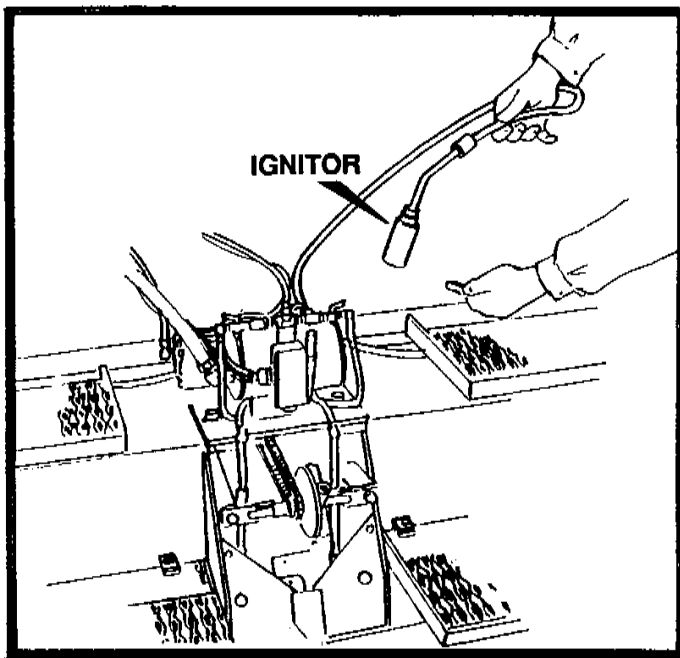

FIGURE 9
3. Use extension burner to light main burners manually. Hold extension burner at end of main burner and turn valve on. Repeat this procedure for opposite side. See figure 9.
3. Ignite burner with striker or lighter. See figure 9.